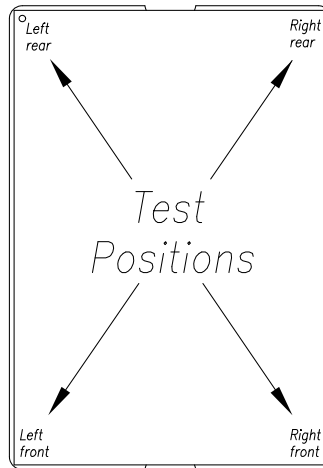

Figure 4-6. Sample Test Positions.
3. Using the host computer control software, designate sample positions at the left rear, left front, right rear, and right front of the sample tray as noted in Figure 4-6.